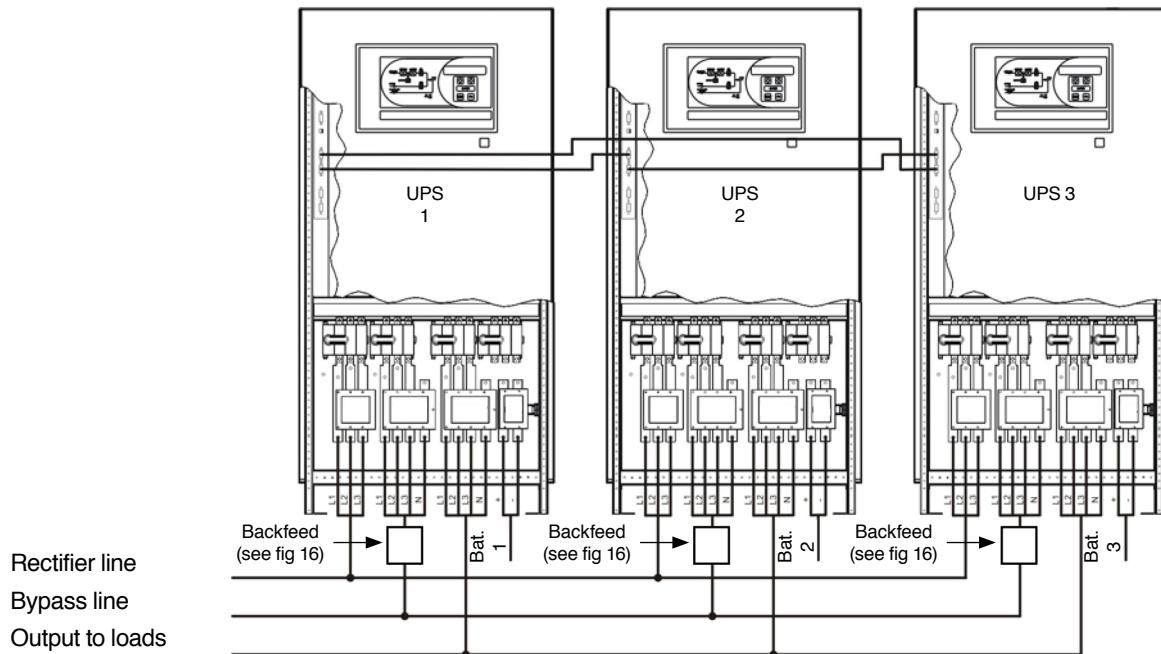
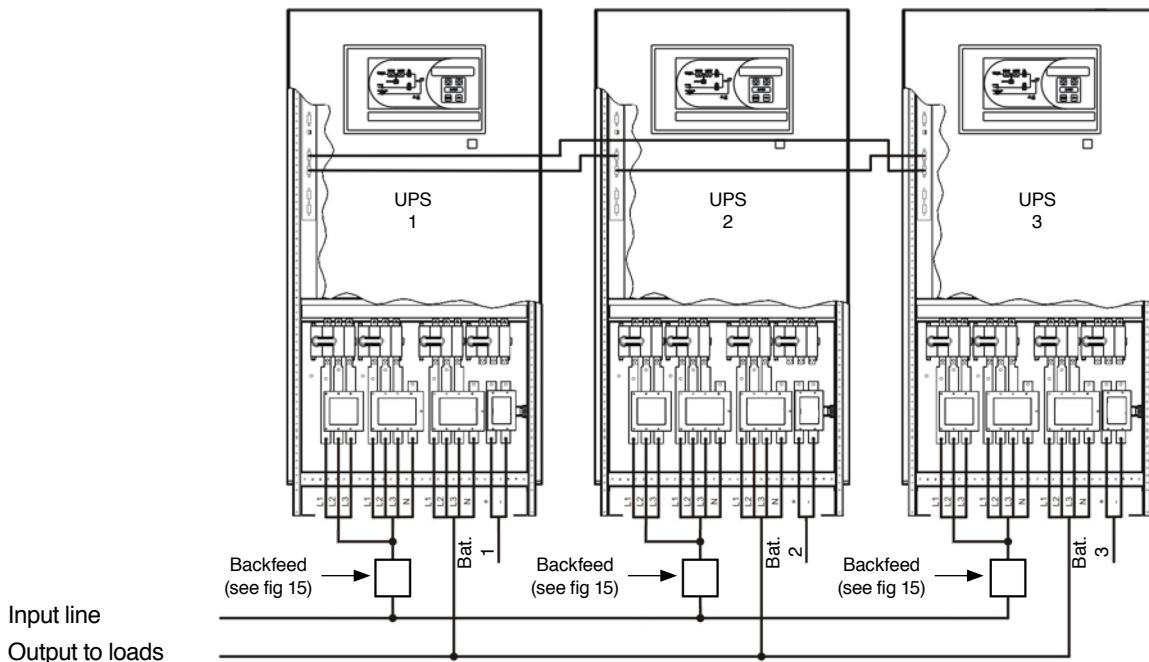

Fig.23. Example of connection of UPSs XTRA-P from 100 to 160 kVA, with separate bypass line.
Fig.24. Example of connection of 3 UPSs XTRA-P-CB from 100 to 160 kVA.
- Diagrams from figures 23 to 26 shows as an example the connection of three equipments in parallel of different power rates, with separate bypass line (see fig. 23 and 25), and with common bypass line (see fig. 24 and 26).